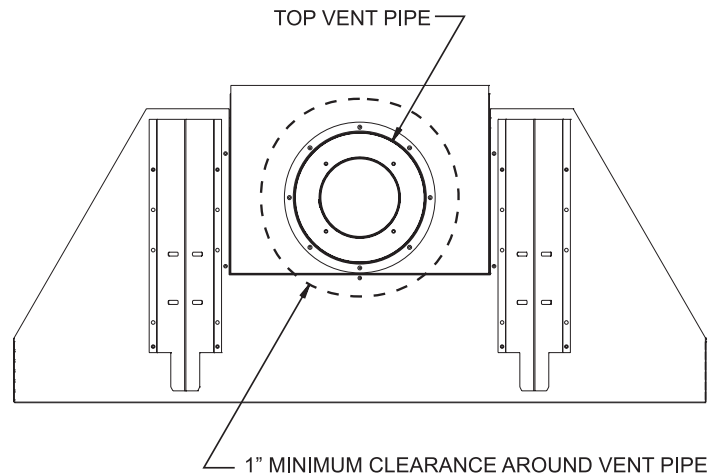

Figure 11 - Top Vent
**NOTICE:** Maintain one inch of clearance around top vent pipe. **See Figure 11.** For rear vent, maintain a minimum 1" clearance to the bottom and sides of the vent, and three inch clearance to combustibles above the vent pipe. **See Figure 12.**